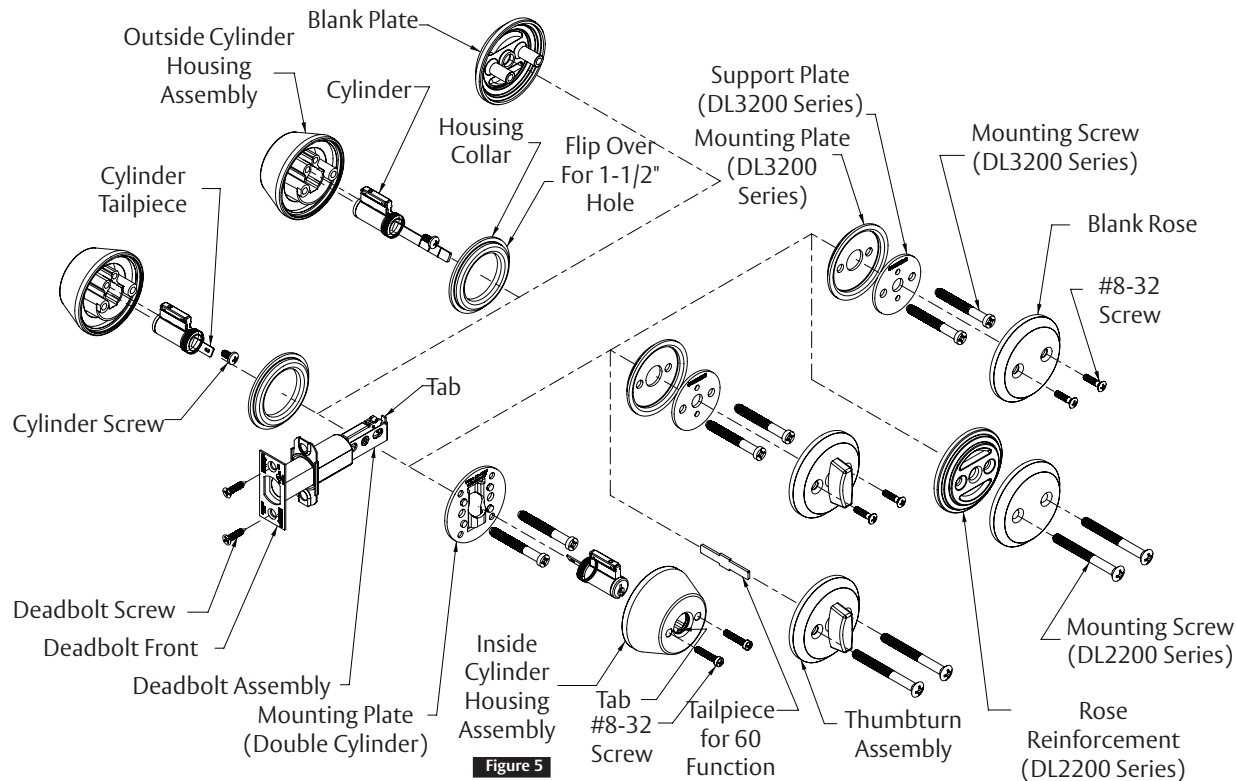

Figure 5
- a. Insert deadbolt unit into hole in door edge, making certain that tab on deadbolt is facing up as shown in Figure 5.
- b. Fasten deadbolt front and deadbolt assembly to door with two (2) deadbolt screws.